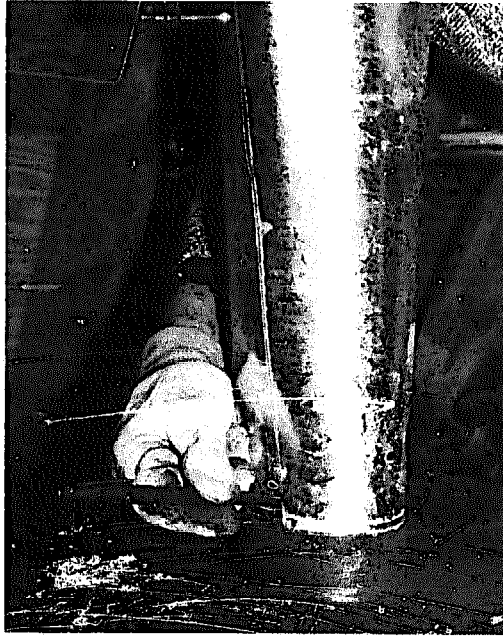

Figure 21.8— Making the guide mark on the crimped end of the adapter. The pipe will be allowed to expand slightly to ensure a tight fit.
4. Form the crimped end into a circle and stick it into its receiver (either the stovepipe collar or the uncrimped end of the next pipe down, as the case may be). You will find it awkward to expand the pipe all the way so that the fit is snug, since it is hard to get a grip; but do the best you can and then mark the position (Figure 21.8). Remove the pipe, match up the mark again, and then allow the pipe to expand just enough to guarantee a snug fit. Clamp securely and drill a hole just above the crimping for the first rivet (or sheet-metal screw). Drive the rivet and unclamp the crimped end of the pipe.